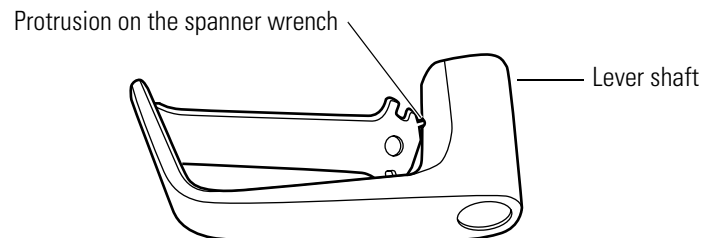

Figure 3.3 Removing the plain lever or button lever
1. Insert the protrusion on the spanner wrench into the hole on the shaft of the lever, as shown in Figure 3.3. Slide the lever off the sleeve.